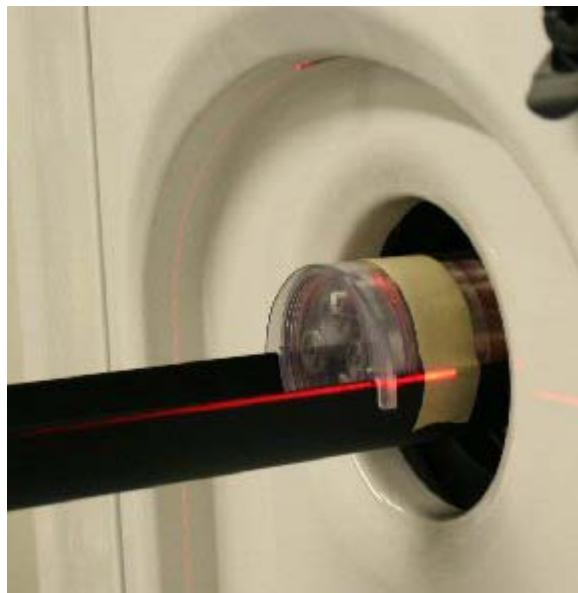

Figure 7-103
- 3.) Use tape (Figure 7-103) to secure the phantom to the cradle (ensure the tape does not cover the copper alignment wire on the geometric accuracy plate).